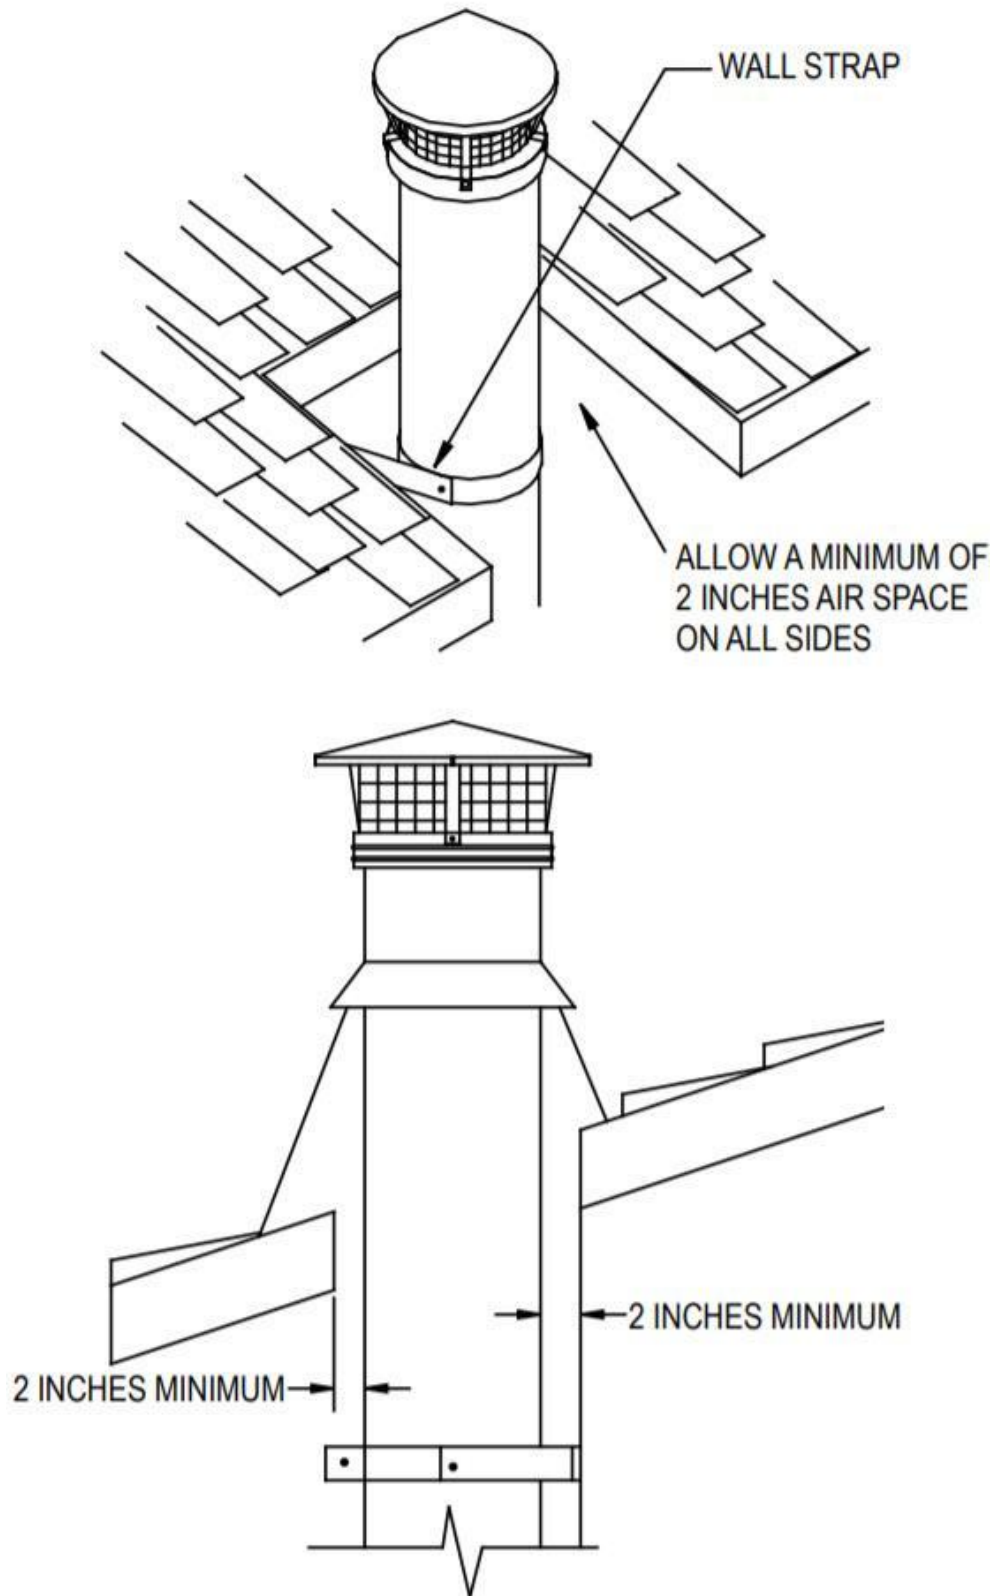

Fig 24
5. **Complete Chimney:** Attach the chimney sections as in Step 7 in the Ceiling Supported Installation section (Page 9). Secure the chimney to the wall with Wall Brackets at a minimum of 8-foot intervals and maintain at least 2 inches of clearance to combustible materials. Slip the Wall Brackets around the chimney, tighten the bolts, adjust the clearance, and fasten the Wall Brackets to the wall. Once the chimney is at a minimum height specified in Figure 1, attach the Chimney Cap onto the top of the chimney by holding it by the collar and twist locking it clockwise onto the Chimney pipe. If the chimney penetrates an overhang, frame for at least 2 inches of clearance and install a Roof Flashing and Storm Collar as described in Steps 9 & 10 for Ceiling Supported Installations (page 10 & 11). Another option is to cut away the overhang for a 2 inch clearance (Fig 24). If the chimney extends more than 5 feet above the top Wall Bracket or Roof Flashing an Extended Roof Brace is required.